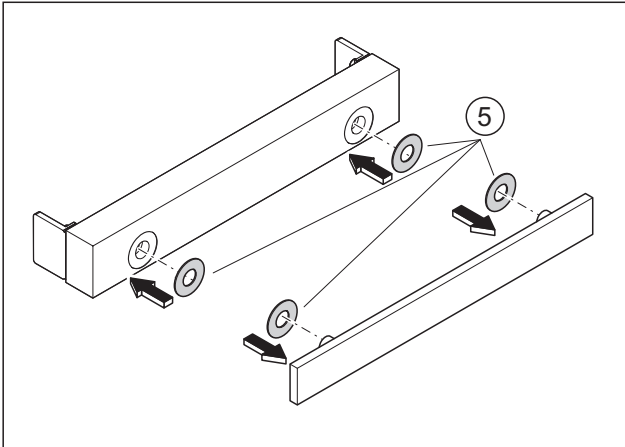

Fig. 10 Install the gaskets as glass protection
1. Install the gaskets as glass protection on the screw-on plate and on the counter-plate (Fig. 10).